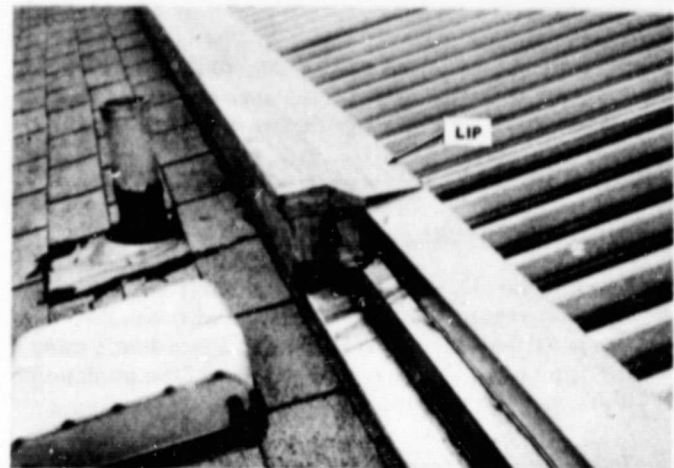

Figure 5-7. Install Cover
3. Install the covers by hooking the lips over the top of the collector transition section cover (Figure 5-7) and attach the covers to the bottom channel flanges with six (6) sheet metal screws.